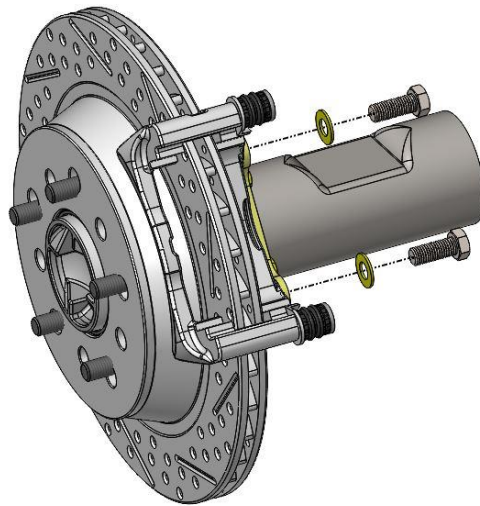

Figure 7 – Caliper Anchor Installation
- Remove the Caliper Anchor bracket from the caliper by removing the M8-1.25 x 21mm Caliper Mounting Bolts from the Anchor followed by removing the brake pads. Install the caliper anchor over the rotor and position to the Secondary caliper bracket. Using the provided M12 Flat Washers and M12-1.75 x 30mm Socket Head Cap Screws, and torque the bolts to 80 lb/ft. Refer to Figure 7 below for reference on installing the caliper anchor.